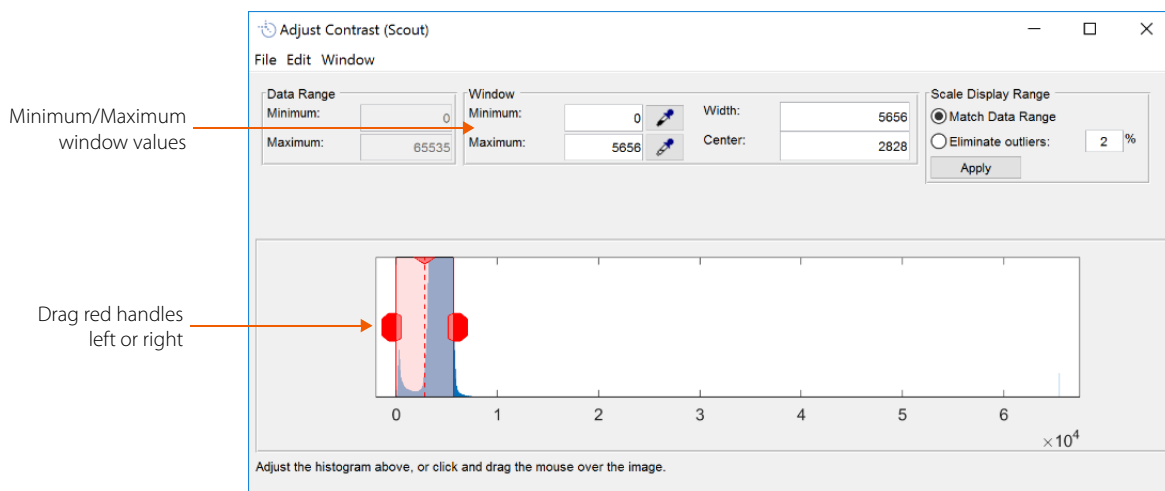

Figure 2-11: Adjust contrast window.
3. Adjust the contrast by dragging the red handles in the histogram left and right, or change the Window Minimum and Maximum values as shown in Figure 2-11.